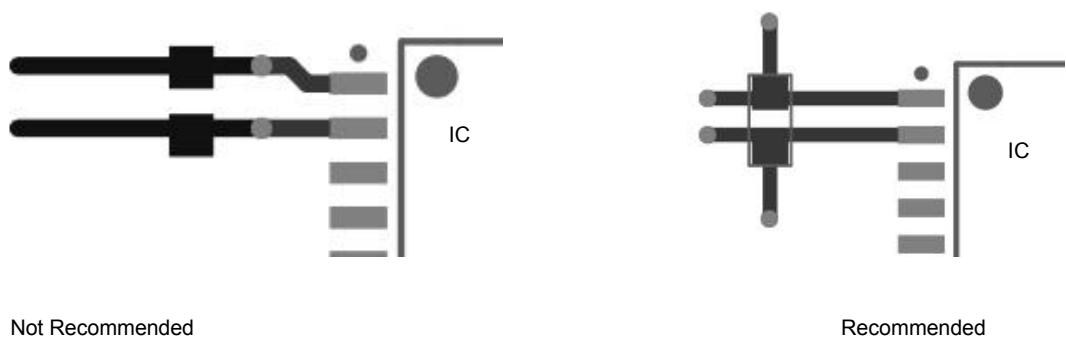

Figure 25-2
3. When it is necessary to place vias in the power supply line and the ground wire, the position of the vias should be placed on the outside of the capacitor relative to the chip pins ,rather than between the capacitor and the chip, as shown in the figure25-2 below to reduce the number of vias effect of parasitic inductance.